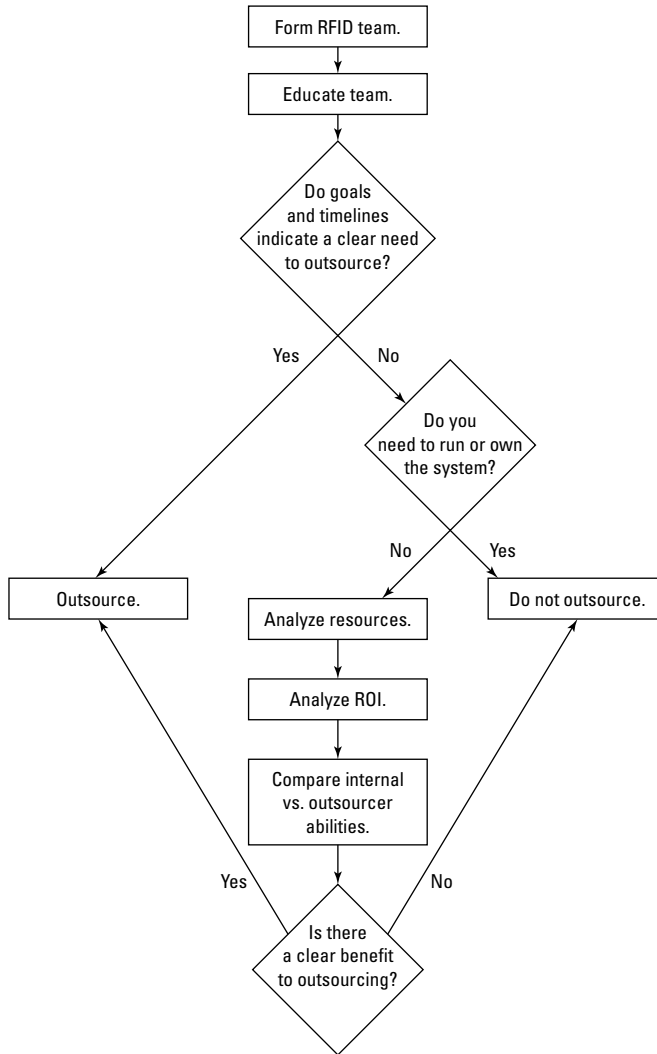

Figure 17-1:
I know it would be helpful to give you a couple of quick yes or no answers to the outsourcing question, but like so many information technology (IT) decisions, it's not that easy. What I can give you is a decision process that might help, however. Figure 17-1 shows the decision-making process that your team should consider as you look at outsourcing versus using internal resources.